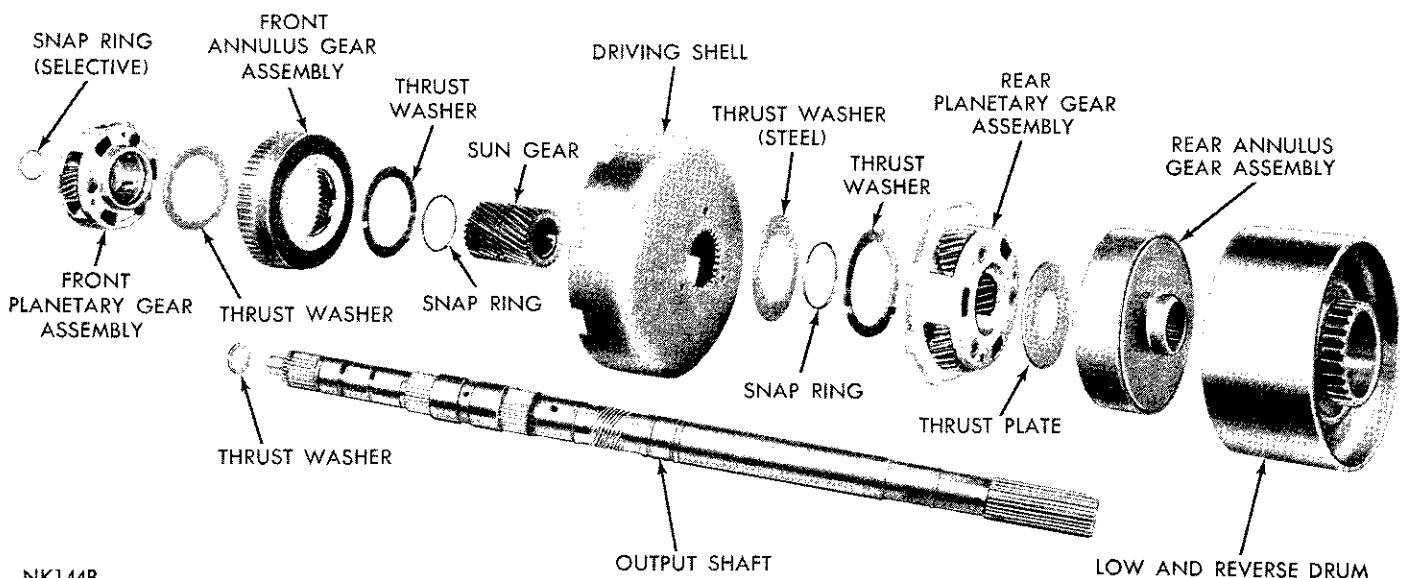

Fig. 65—Planetary Gear Train and Output Shaft Disassembled (A-727)
- (1) Remove thrust washer from forward end of the output shaft (Fig. 65).
- (2) Remove selective snap ring from forward end of output shaft, then slide front planetary assembly off the shaft.
- (3) Slide front annulus gear off the planetary gear set (Fig. 65). Remove thrust washer from rear side of the planetary gear set.
- (4) Slide sun gear, driving shell and rear planetary assembly off the output shaft.
Refer to Figure 65 for parts references.
(1) Cut a 3-1/2 inch diameter hole in a bench, in the end of a small oil drum or a large wooden box strong enough to support transmission. Cut or file notches at the edge of the 3-1/2 inch hole so output shaft support will fit and lay flat in the hole.
(2) Carefully insert output shaft into the hole to support the transmission upright, with its weight resting on flange of the output shaft support.
(3) Apply a coat of grease on the input to output shaft thrust washer (Fig. 65), and install the washer on front end of the output shaft.
(4) Align front clutch plate inner splines, and place assembly in position on the rear clutch. Make sure front clutch plate splines are fully engaged on the rear clutch splines.
(5) Align rear clutch plate inner splines, grasp input shaft and lower the two clutch assemblies into the transmission case.
(6) Carefully work clutch assemblies in a circular motion to engage rear clutch splines over splines of the front annulus gear. Make sure front clutch drive lugs are fully engaged in slots in the driving shell.